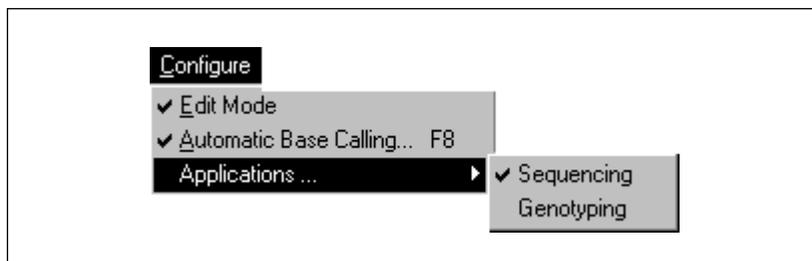

Figure 3-5. The Configure menu with the sequencing application selected.
1. From the Configure menu, point to **Applications** and then choose **the name of the application** you want to use (sequencing or genotyping). A check mark appears in front of the selected application (figure 3-5).